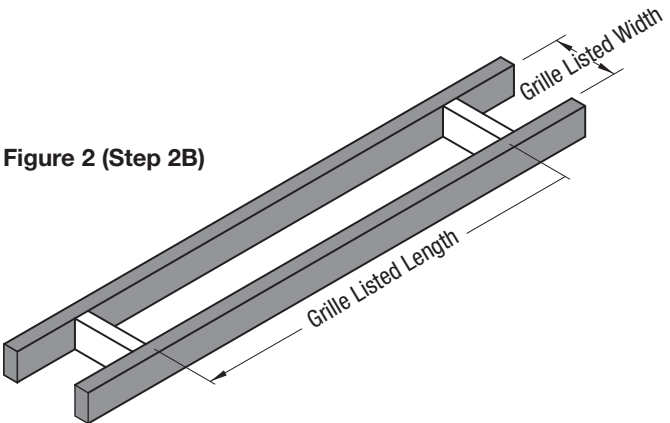

Figure 2 (Step 2B)
- B. In general, the length and width of the opening within the framing should be the ordered nominal grille length and width (see Figure 2).